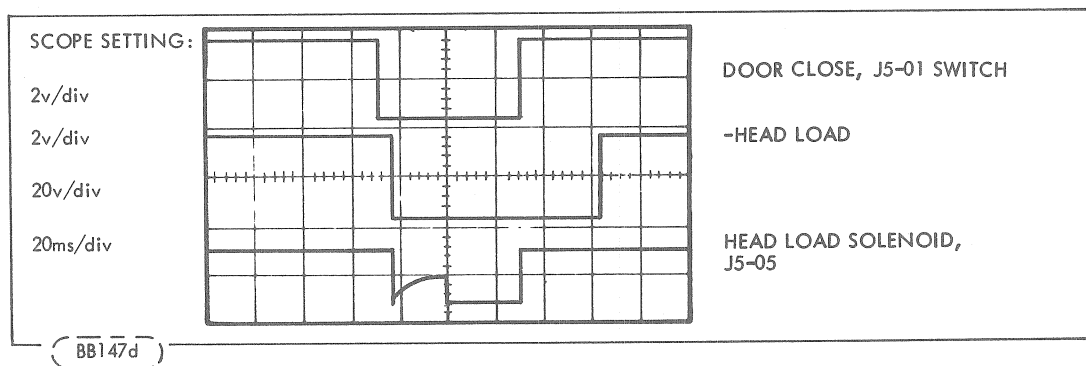

Figure 6-1. -Head-Load and Door-Close Switch
- Signals should conform to Figure 5-1 and Figure 6-1 through 6-4.